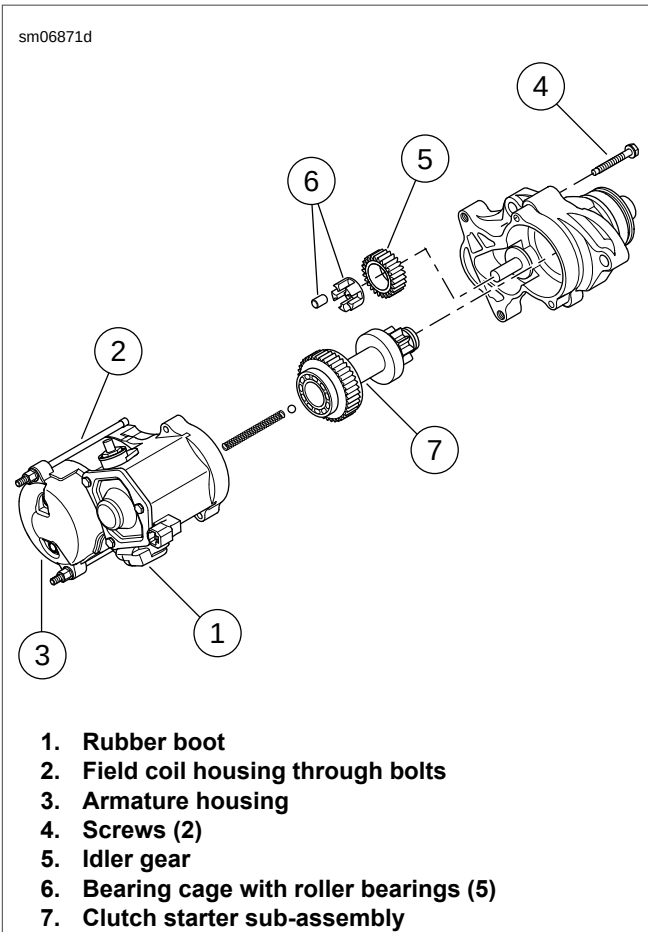

Figure 7-26. Clutch Starter Sub-Assembly and Housing
- See Figure 7-26. Pull up rubber boot (1) and remove hex nut with captive lockwasher to release field wire from terminal post on solenoid housing.
- Loosen two through bolts (2) to release field coil housing from solenoid housing.
- See Figure 7-26. Verify that the idler gear (5) rotates freely without drag or sticking.
- Inspect roller bearings (6). Bearings must rotate freely without drag or sticking. Replace starter motor if the bearings are pitted or grooved.
1. See Figure 7-26.